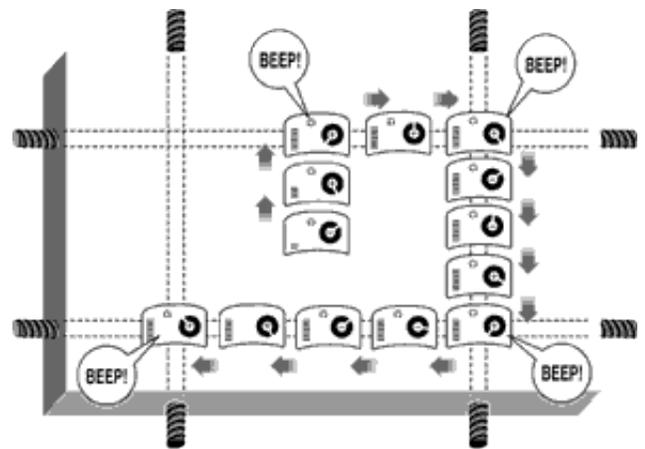

Figure 8
4. Since rebar may be in a grid array, scan the surface vertically and horizontally to locate its position. You may use the depth bars to locate rebar in one direction. While still over that piece of rebar, scan along that bar and use the scanning wheel to indicate rebar in the opposite direction (Figure 8).